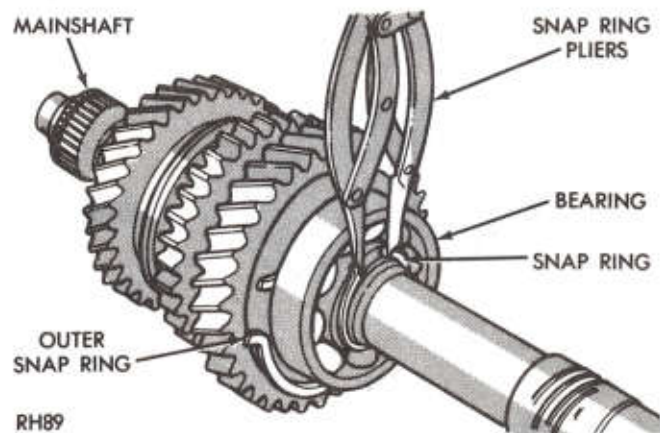
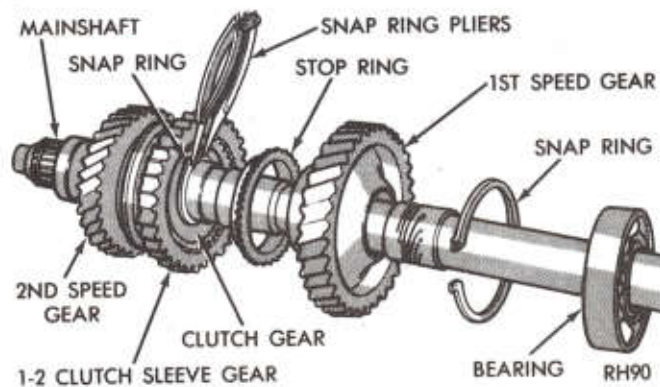
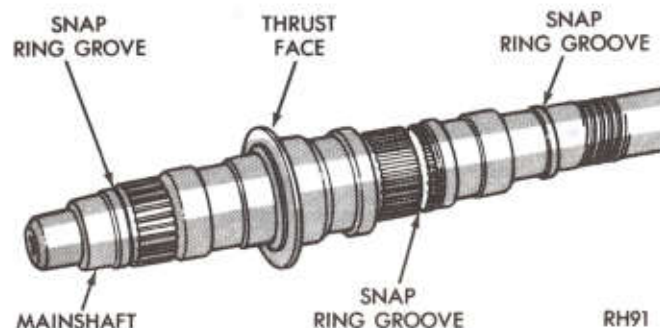
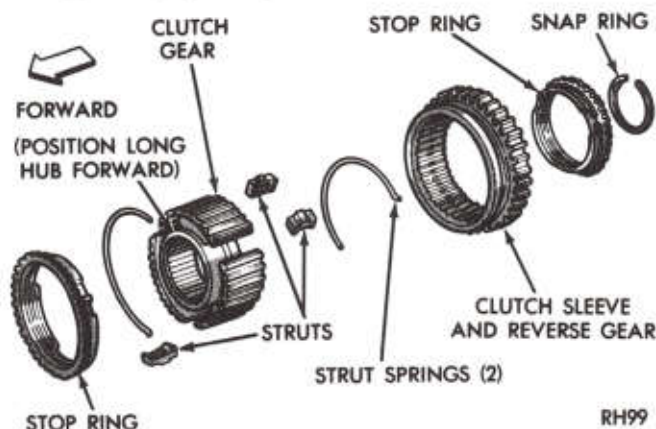

Fig. 20—Mainshaft Bearing
Fig. 21—Clutch Gear Snap Ring
Fig. 22—Mainshaft Bearing Surfaces
Fig. 30—1st-2nd Synchronizer
(16) Remove snap ring that retains mainshaft bearing on the shaft (Fig. 20).
(17) Remove bearing from mainshaft by inserting steel plates on front side of 1st speed gear, then press
(18) Remove bearing, bearing retainer ring, 1st speed gear, and first speed stop ring from the shaft.
(19) Remove snap ring that retains 1st and 2nd clutch gear and sleeve assembly to mainshaft (Fig. 21).
(20) Slide 1st and 2nd clutch gear and sleeve assembly from mainshaft. (Do not separate synchronizer parts unless inspection reveals a replacement part is required.) Remove 2nd speed gear.
(21) Figure 22 shows various mainshaft bearing
(1) Subassemble the synchronizer parts in the order shown in (Figs. 30 and 31) as follows: Place a stop ring flat on the bench followed by the clutch gear and
(2) Slide second speed gear over mainshaft (synchronizer cone toward rear) and down against shoulder on shaft (Fig. 21).
(3) Slide 1st-2nd synchronizer assembly (including stop ring with lugs indexed in hub slots (Fig. 30), over mainshaft, down against second gear cone and secure with a new snap ring (Fig. 21). Slide next stop ring over shaft and index lugs into clutch hub slots.
(4) Slide 1st speed gear (synchronizer cone toward clutch sleeve gear just installed) over mainshaft into position against clutch sleeve gear.
(5) Install mainshaft bearing retaining ring, followed by mainshaft rear bearing. Using an arbor and a suitable tool, drive or press bearing down into position. Install a new snap ring on shaft to secure bearing (Fig. 20). This snap ring is a select fit for minimum end play.